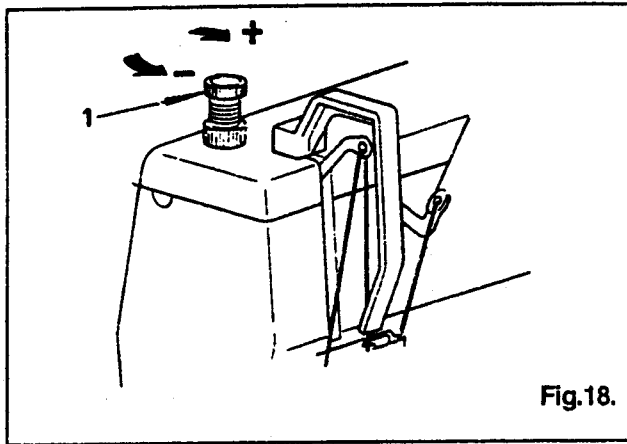

Fig.18.
To regulate the presser foot pressure, turn knurled thumb screw (1), Fig. 18, toward left of right as required.